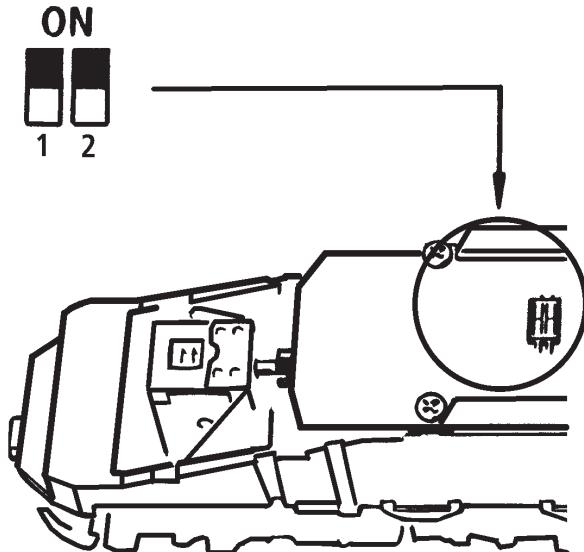

Fig. 7
**3. Change of traction tyre:** Remove the gear cover (fig. 7). Take out **wheel set** and remove **traction tyre** using a pin or a fine screwdriver (fig. 9). When pressing on the new traction tyre please **avoid twisting it**.
se } Fig.7